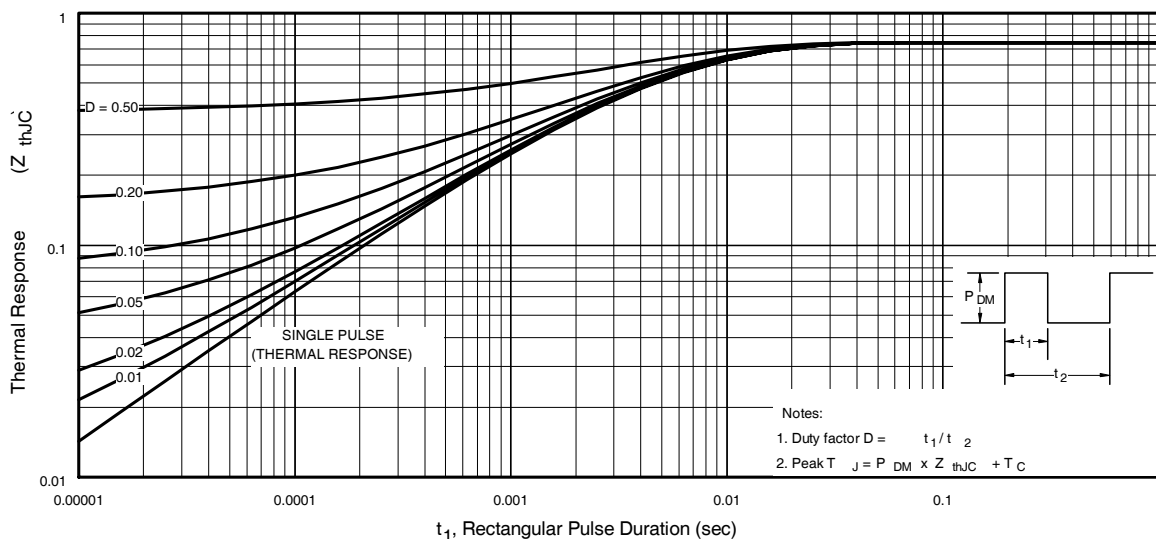

Fig 11. Maximum Effective Transient Thermal Impedance, Junction-to-Case
- ① Repetitive rating; pulse width limited by max. junction temperature. (See fig. 11)
- ② Starting $T_J = 25^\circ\text{C}$, $L = 0.70\text{mH}$